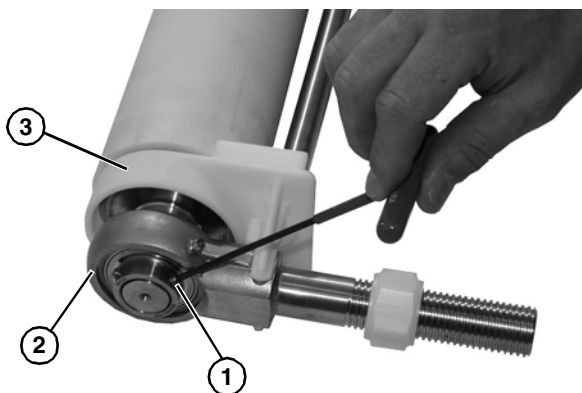

Figure 64
- Use a 4 mm hex wrench to loosen the bearing fasteners (**Figure 64, item 1**).
- Remove the bearing shaft (**Figure 64, item 2**) and pinch guard (**Figure 64, item 3**).